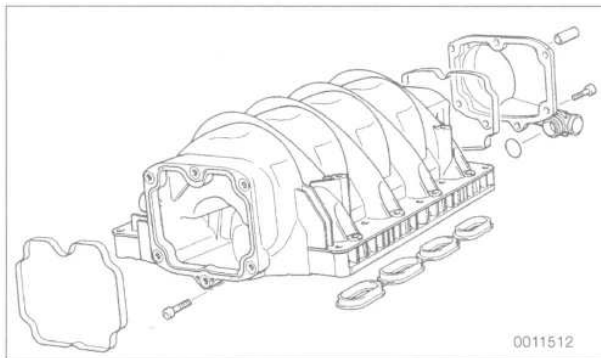

Fig. 49. Crankcase ventilation pressure regulating valve cover at rear of intake manifold (arrow).
- Remove cover from rear of intake manifold. See Fig. 49.